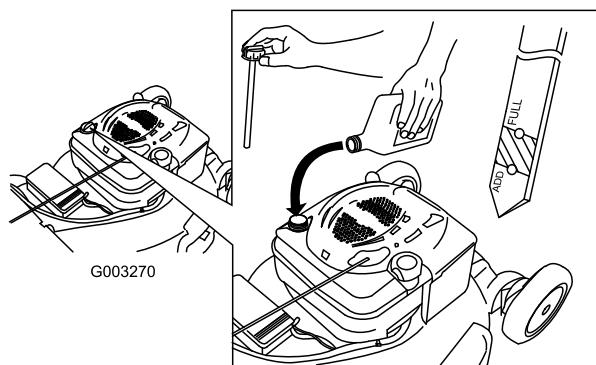

Figure 44
4. Slowly pour oil into the oil fill tube until the oil level reaches the Full line on the dipstick (Figure 44). **Do not overfill.** (Max. fill: 20 oz. (0.59 l), type: SAE 30 detergent oil with an API service classification of SF, SG, SH, SJ, SL, or higher.)